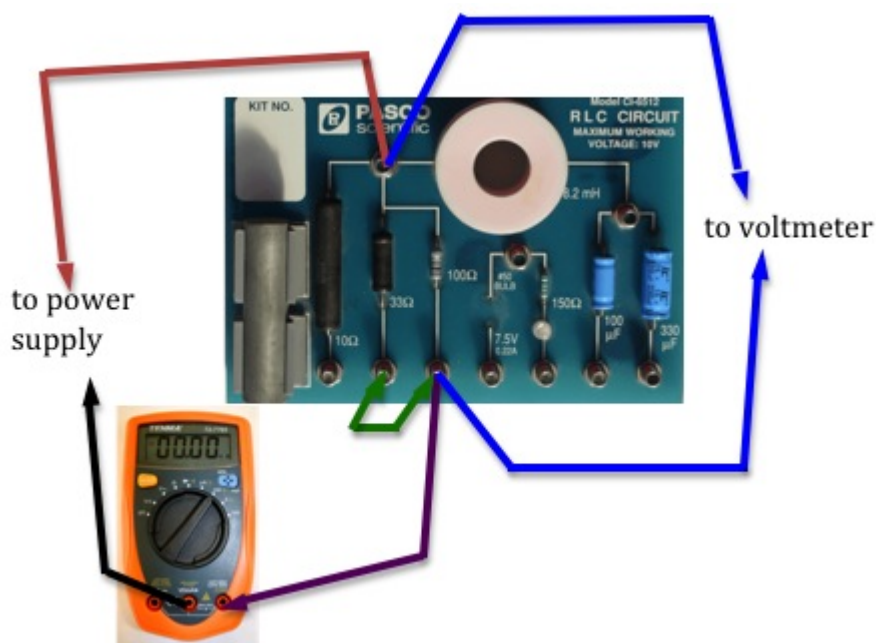
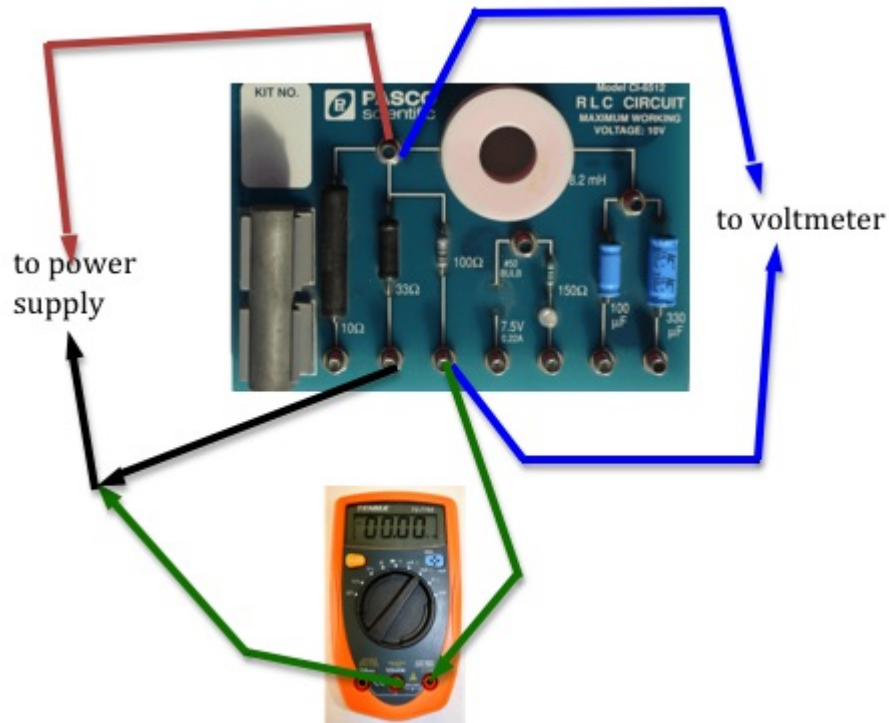
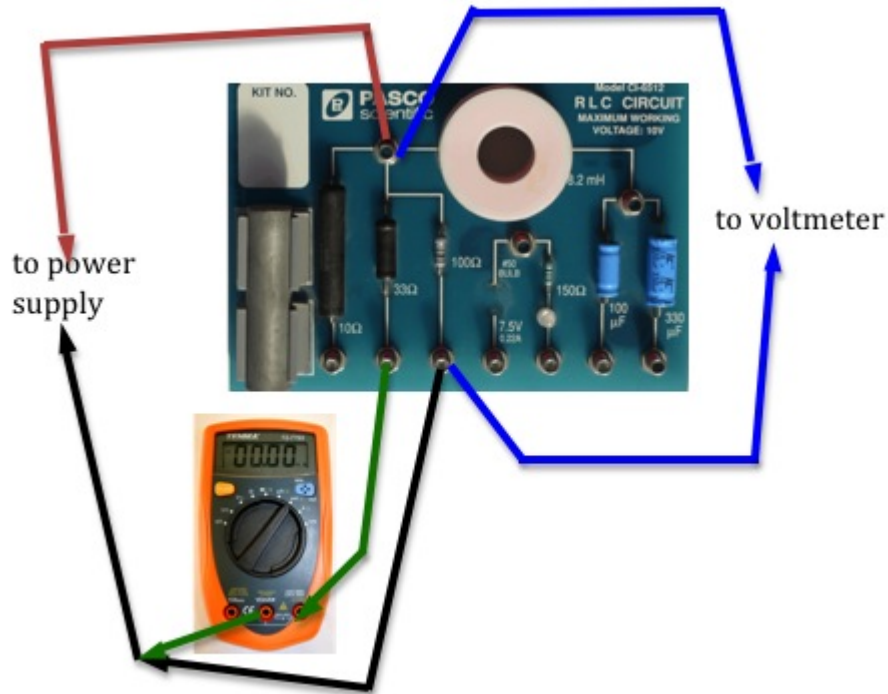

Figure 11: Connection for the parallel circuit
Figure 12: Measuring current through the 100-Ω resistor
Figure 13: Measuring current through the 33- $\Omega$  resistor
- 22 Connect the two resistors you used before in a parallel arrangement. Connect the voltmeter to measure the potential difference across the parallel combination. See Fig. 11 below.
You will use the second multimeter as an ammeter to measure the current  $I$  flowing out of the power supply, as well as  $I_1$  and  $I_2$ , the currents flowing through  $R_1$  and  $R_2$ , respectively. To do this you will first connect the ammeter in series with the power supply (as in Fig. 11) to measure  $I$ . You will then disconnect the ammeter and connect it, first in series with  $R_1$  (see Fig. 12) and then in series with  $R_2$  (see Fig. 13) to measure  $I_1$  and  $I_2$ .